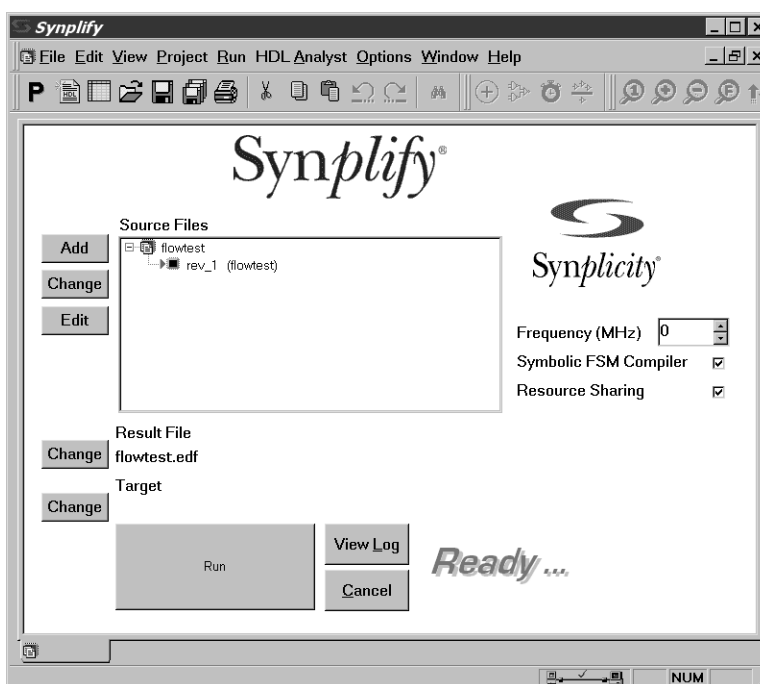

Figure 5-9: Project Window
3. Click OK to exit the dialog and return to the project window (Figure 5-9).